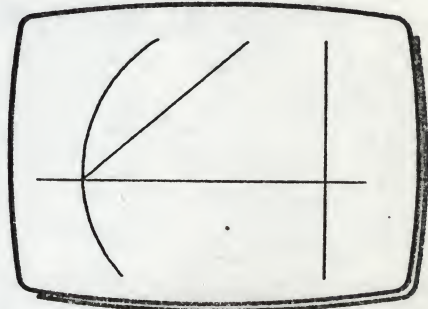

Fig 8
- 6 Press and release T to view the portion of the drawing enclosed by the PAN cursor, (Fig 8).